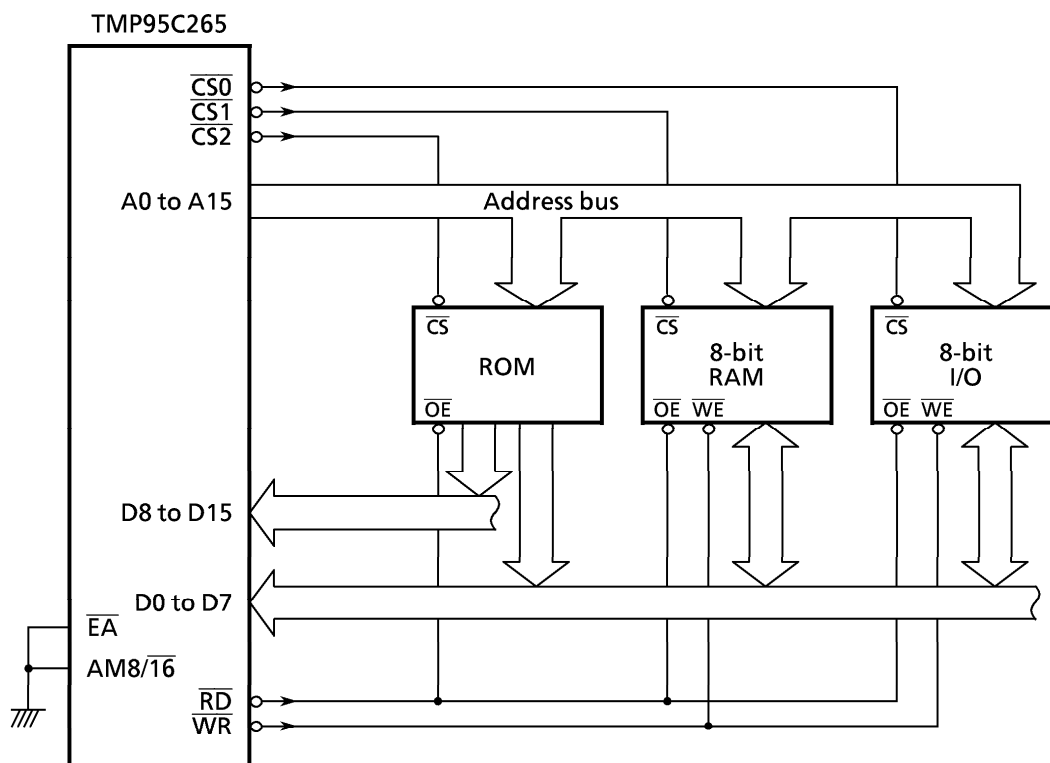

Figure 3.6 (9) External Memory Connection Example
Figure 3.6 (9) shows an example of connecting external memory to TMP95C265. In the example, ROM is connected using a 16-bit bus. RAM and I/O are connected using an 8-bit bus.